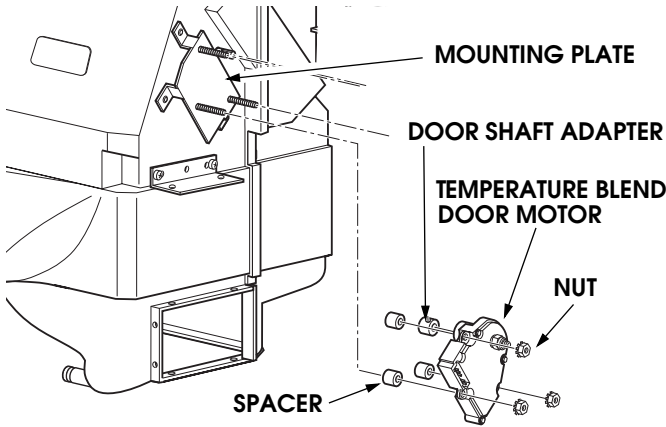

Figure 11-91: Temperature Blend Door Motor Removal
2. Remove 3 nuts securing motor to bracket (Figure 11-91).